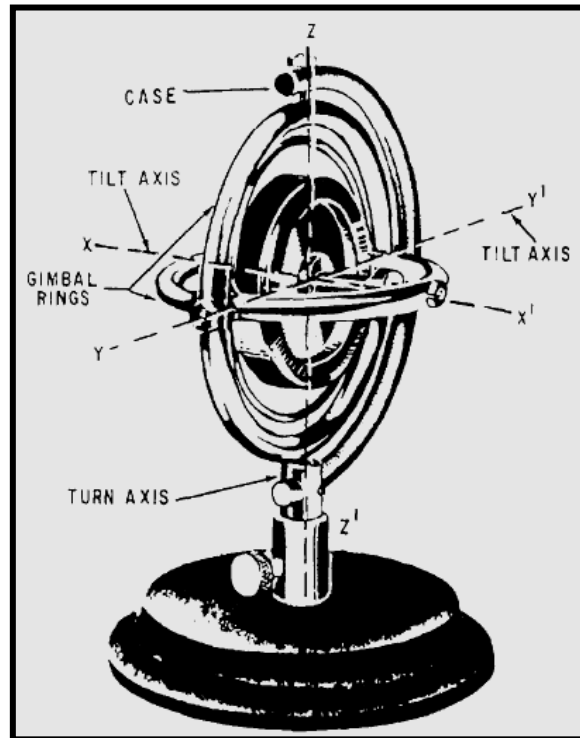

Figure 4-1.—The gyroscope.
A free gyroscope is a universal-mounted, spinning mass. In its simplest form, the universal mounting is a system that allows three degrees of freedom of movement. The spinning mass is provided by a heavy rotor. Figure 4-1 illustrates a free gyroscope. As you can see in the figure, the rotor axle is supported by two bearings in the horizontal ring. This ring is supported by two studs mounted in two bearings in the larger vertical ring. These two rings are called the inner gimbal and outer gimbal, respectively. The outer gimbal is then mounted with two studs and bearings to a larger frame called the case.
As you can see in figure 4-1, the mounting of the gimbals allows movement in three separate directions, or three degrees of freedom: (1) freedom to spin, (2) freedom to tilt, and (3) freedom to turn. The three degrees of freedom allow the rotor to assume any position within the case. The rotor is free to spin on its own axis, or the X axis, the first degree of freedom. The inner gimbal is free to tilt about the horizontal or Y axle, the second degree of freedom. The outer gimbal ring is free to turn about the vertical or Z axis, the third degree of freedom.